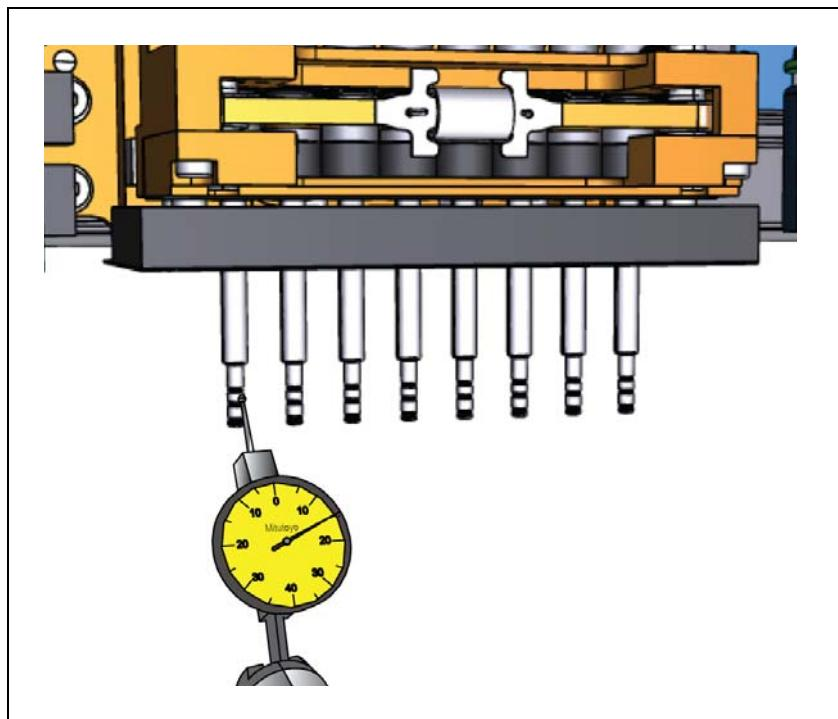

Figure 6-24. Position the dial indicator at HYDRA tool 1.
10. Position the dial indicator against HYDRA tool 1 and position the indicator probe between the tooltubes two top o-rings. See Figure 6-24.